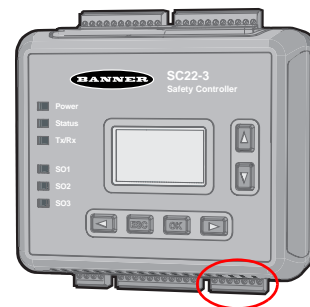

Figure 27 Safety Output Terminal Block
- 2)  Referring to Figure 27 on page 71, verify that 7-pin connector is unplugged from *Safety Controller* to ensure that *Safety Outputs* SO1 (A and B), SO2 (A and B) and SO3 (A and B) are not connected to machine.